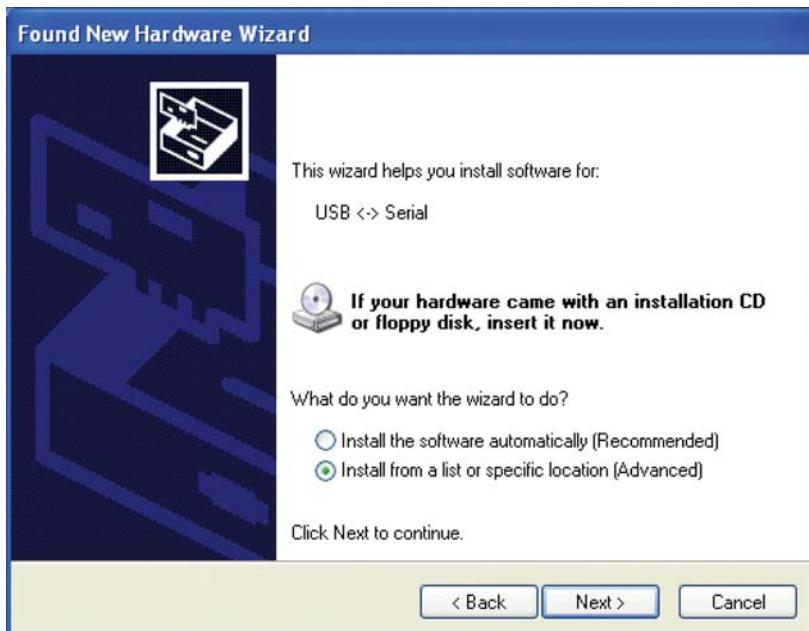

Figure 5. Found New Hardware Wizard
3. The ‘Found New Hardware Wizard’ screen will appear (Figure 5). Select to ‘Install from a list or specific location (Advanced)’ option under ‘What do you want the wizard to do?’.